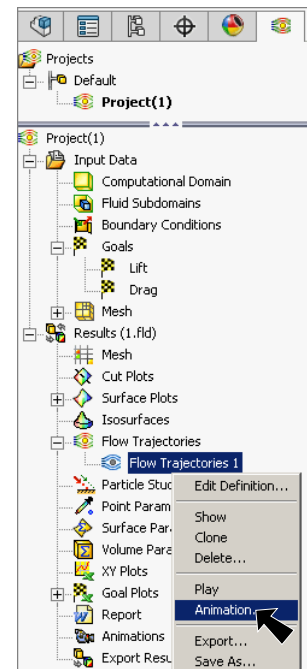

Fig. 30
Step 2. **Right click** **Flow Trajectories 1** in Flow Simulation tree and click **Animation**, Fig. 30.